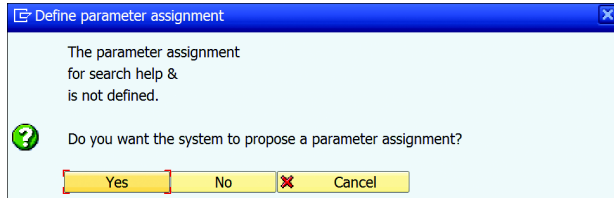

Figure 10.73 Parameter Assignment
- Keep the cursor on a search help name and click the PARAM.ASSIGNMENT button. The DEFINE PARAMETER ASSIGNMENT dialog box will appear (see Figure 10.73). Click YES to let the system propose the assignment, and click COPY on the next screen. Repeat this process for all search helps listed.